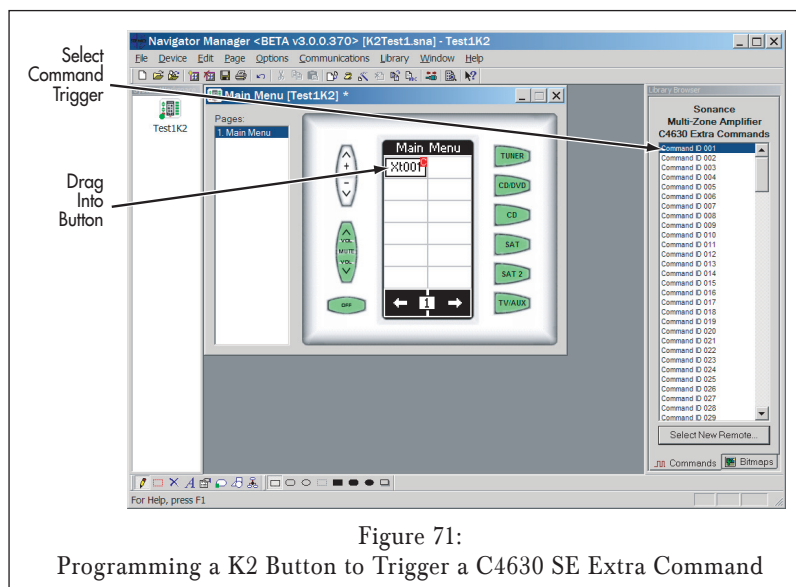

Figure 71:
2. Select the desired Extra Command trigger and drag it to the button you want to trigger it (Figure 71).